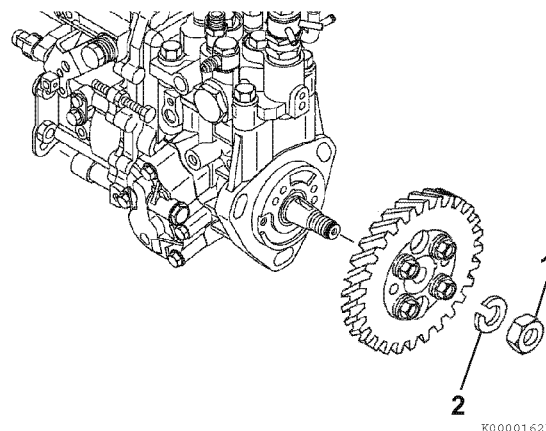

Figure 7-18
20. Once the fuel injection pump drive gear and hub assembly has "popped" loose from the tapered fuel injection pump drive shaft, carefully remove the drive gear nut (1, **Figure 7-18**) and lock washer (2, **Figure 7-18**).